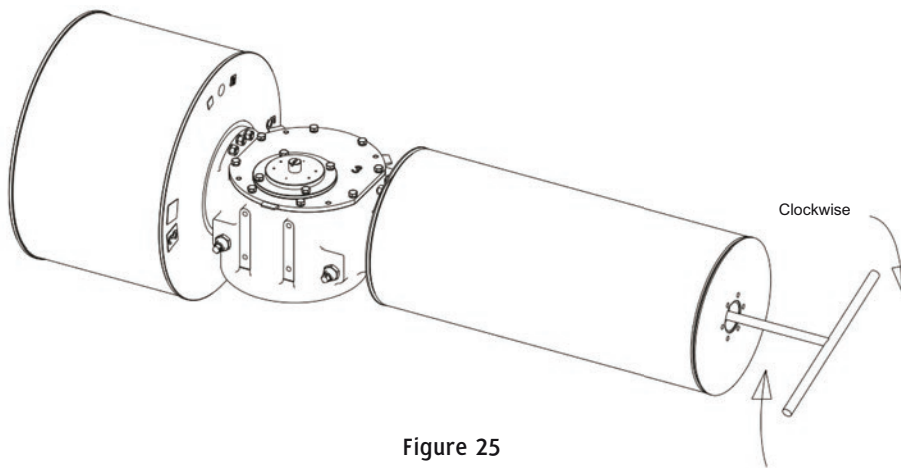

Figure 25
4. Insert the special tool provided by the factory into the cylinder module and insert it into the end of the piston rod, as shown in Figure 25.
6. Rotate the special tool clockwise in the direction shown in Figure 25 to combine the piston rod with the transmission joint. Refer to Table 11 for the torque;